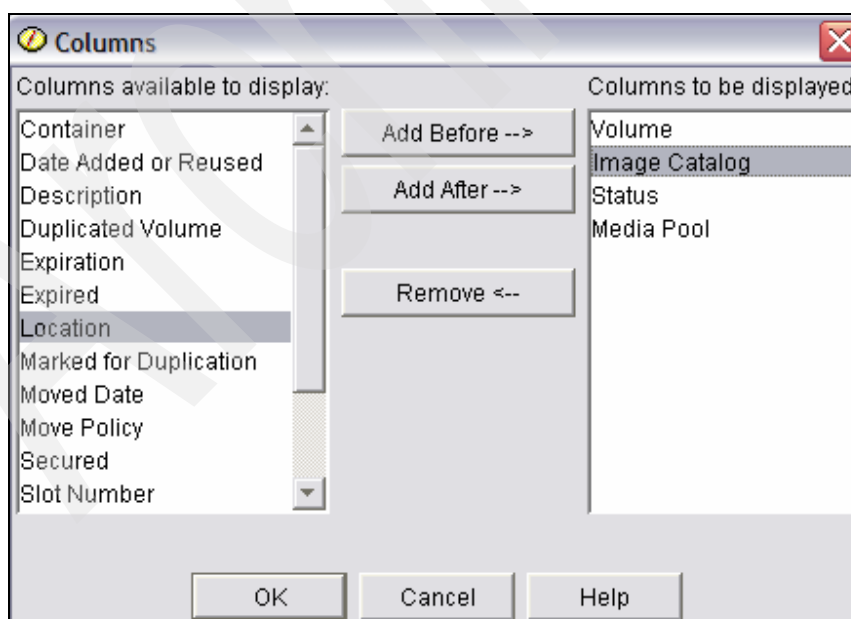

Figure 8-24 Add column
5. Add the column **Location** in the order in which you want it to appear, as shown in Figure 8-24. Click **OK**.